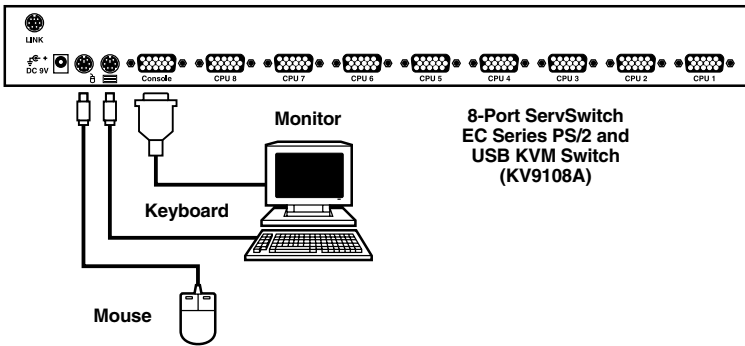

Figure 3-1. Console keyboard, mouse, and monitor connections.
2. Connect your PS/2 keyboard and PS/2 mouse directly to the PS/2 console keyboard and mouse ports (labeled with keyboard and mouse symbols) on the back of the ServSwitch. See Figure 3-1.
3. Connect the HD15 VGA male connector from your monitor to the console VGA port on the back of the ServSwitch. See Figure 3-1.